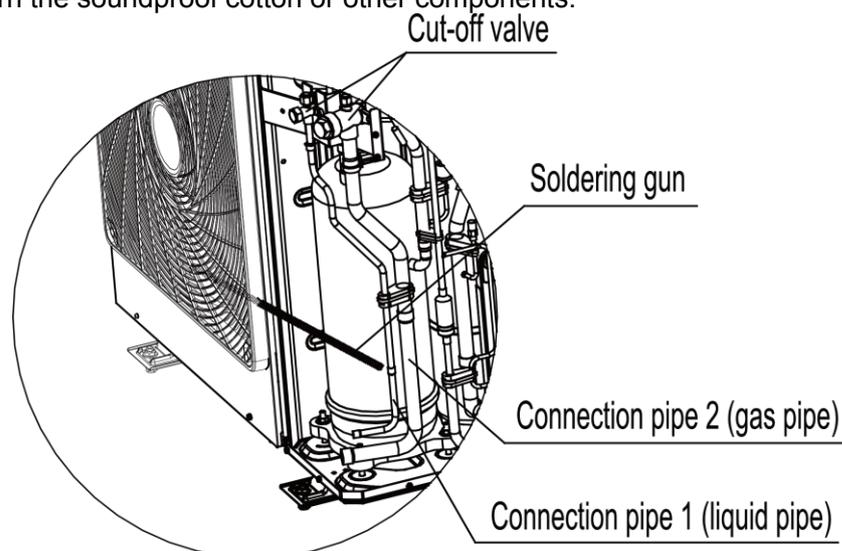
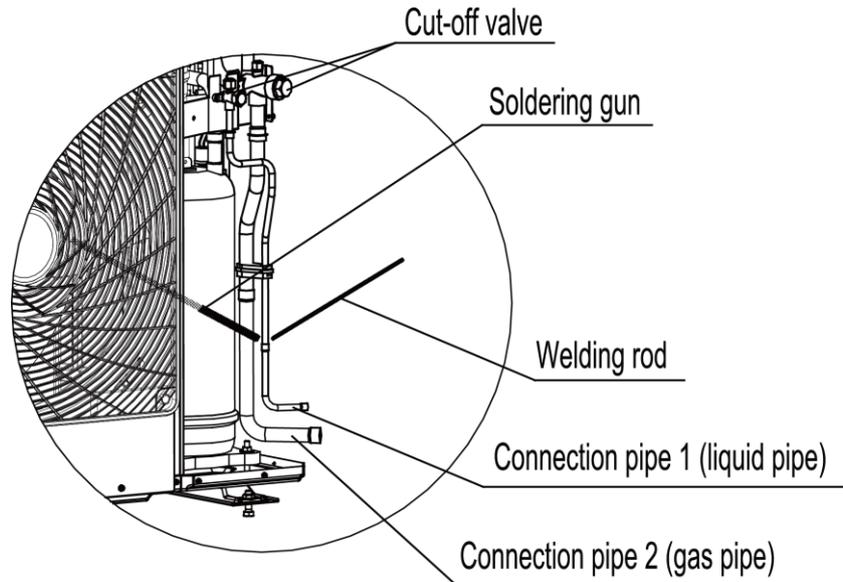

Fig. 17
Fig.18
- 2) If connection pipe is connected at the side as shown in Fig.17 and Fig.18, open the front side plate, rear side plate and connection board. Then open the soundproof cotton. Use a soldering gun to unsolder connection pipe 1 and connection pipe 2. Rotate them to a proper angle and install them to their respective position. Seal the apertures with welding rod. First weld connection pipe 1 (liquid pipe) and then weld connection pipe 2 (gas pipe). During welding, it's necessary to use wet gauze to wrap up the filter near connection pipe 2 and the two cut-off valves. Make sure the flame won't burn the soundproof cotton or other components.
(2) Y-type branch has several pipe sections with different dimension, which facilitates to match with various copper pipes. Use pipe cutter to cut in the middle of the pipe section that is of proper dimension and remove burrs as well. See Fig.17.
(3) Y-type branch must be installed vertically or horizontally.
- 4) Joints of indoor and outdoor unit should be wrapped with insulating material and leave no gap between pipe and wall. See Fig.18.